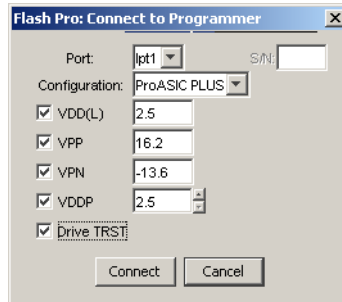

Figure 3-1. FlashPro: Connect to Programmer Dialog Box
1. **From the *File* menu, click *Connect*.** The FlashPro Connect to Programmer dialog box displays, as shown in Figure 3-1.